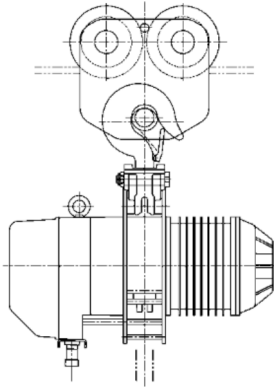

Figure 3-13 Model 5 Ton ES
- 6) 5 Ton ES – This hoist couples to the trolley by hook mounting the hoist to the trolley's suspension shaft. As shown in **Figure 3-13**.